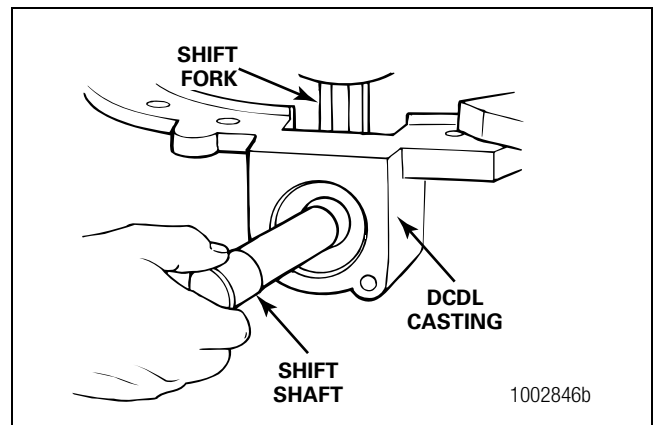

Figure 6.10
9. Pull the shift shaft from the fork and out of the carrier. Figure 6.10.